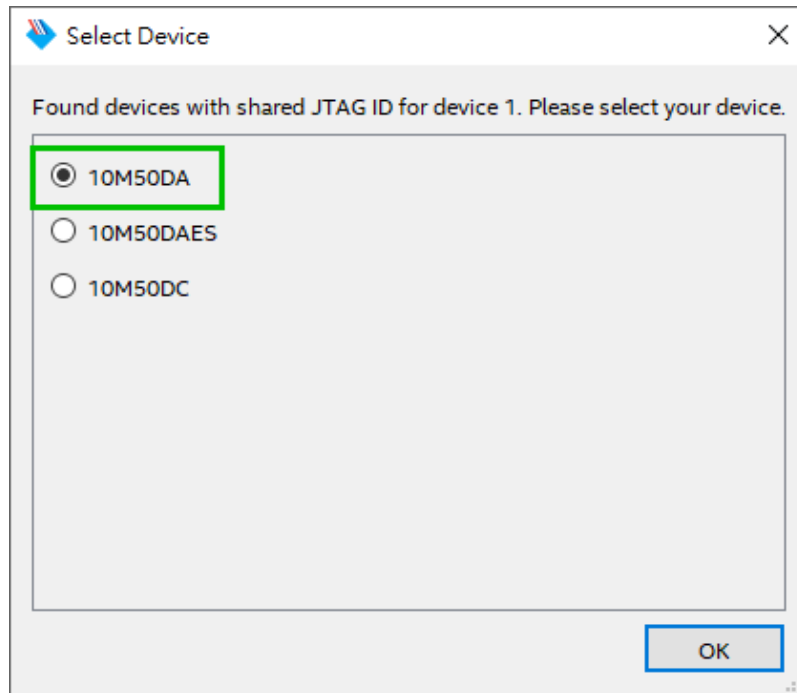

Figure 2-6 Select 10M50DA device
5. Select detected device associated with the board, as circled in **Figure 2-6**.